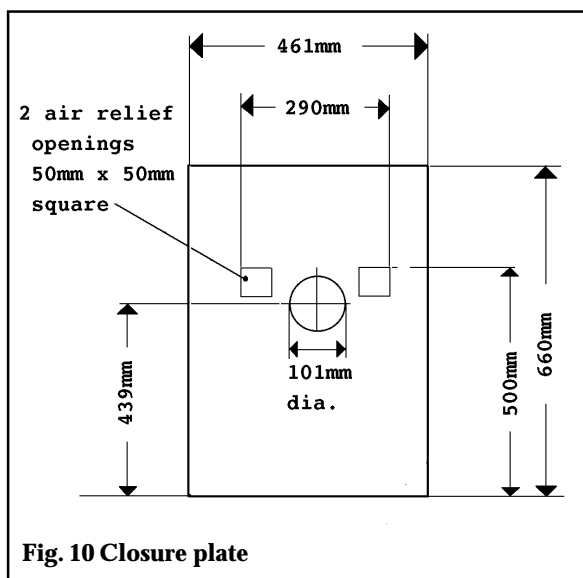

Fig. 10 Closure plate
3.4 Fit The Closure Plate (Figs 10, 11 & 12)